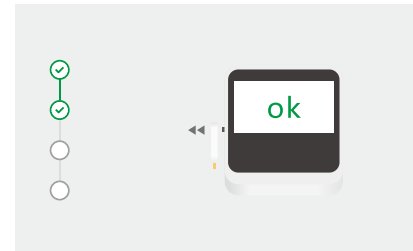

Fig.31 Device is OK
- Display shows OK (Fig. 31), Indicates that the device function is normal.